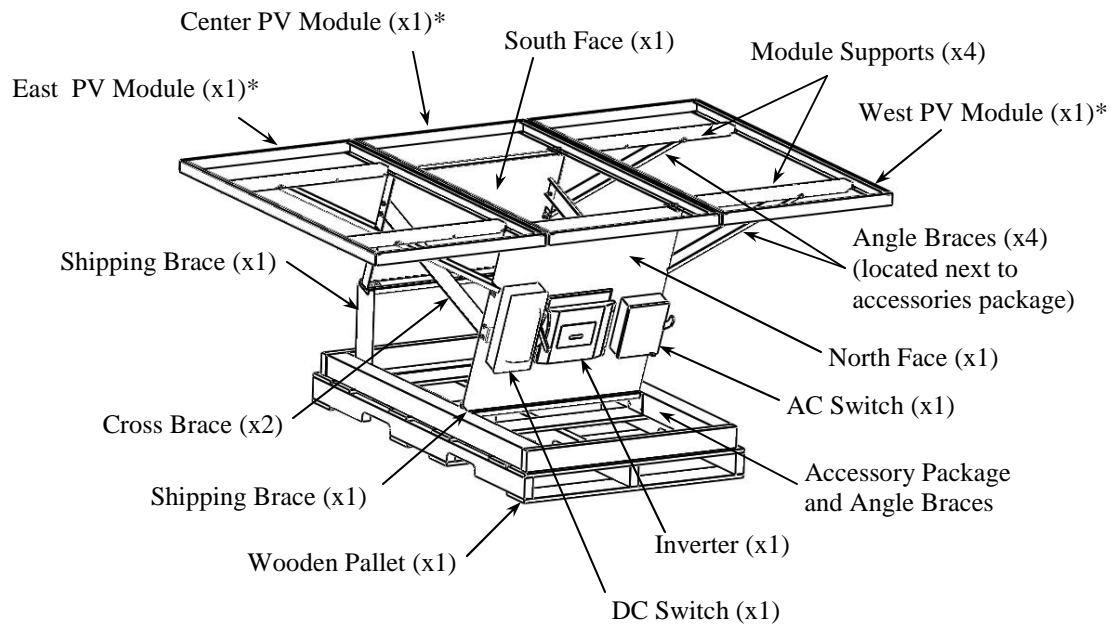
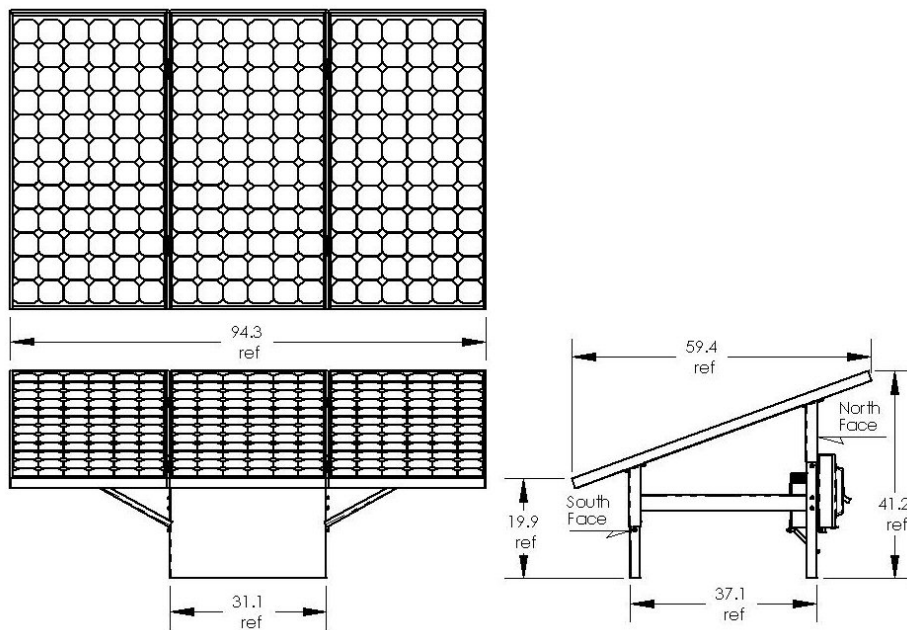

Figure 1
Figure 2
To complete section III you will need the tools listed in Table 1, the hardware from the **Accessory Package** - Table 2, and the **Angle Braces**. The **Accessory Package** and the 4 **Angle Braces** are located on the pallet (Figure 1)
Figure 1 shows your Blue Link still on the wooden pallet with the side PV modules deployed. Figure 2 gives the basic dimensions of your deployed Blue Link 480.
Note: PV Panels will be located as shown in (Figure 2)
10. Repeat steps 4 through 9 for the remaining 3 **Angle Braces** (Figure 2)